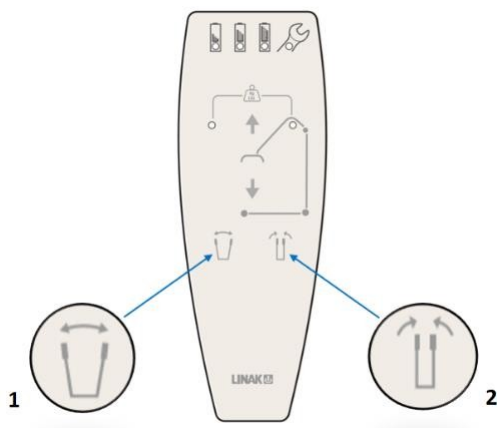

Figure 5 – Control button spreading range of the device's legs of the base
- Adjust the shin pads to be approximately 2 cm below the patient's knees (refer to point 6.9). Extend the device's legs to the desired width (using button one on the hand control, Figure 5).
- Narrow the leg width of the device by moving it back (using button two on the hand control, Figure 5).
This feature is beneficial when adjusting the lift to approach a patient seated on a chair or other furniture, ensuring the device's width matches perfectly. Hold down the relevant button on the hand control until the desired leg width is achieved (Figure 5).